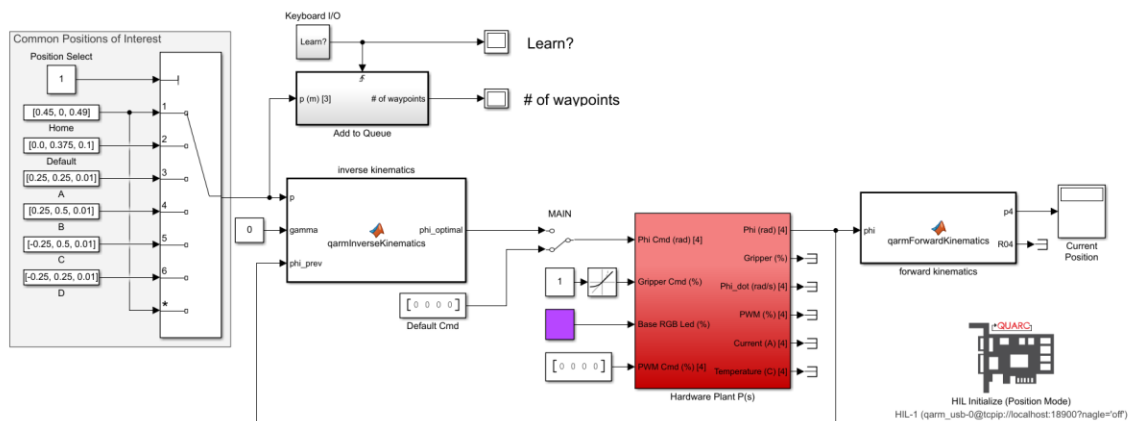

Figure 2.3: Simulink model *TeachPendant_Learn.slx*
1. Open the Simulink model TeachPendant_Learn.slx (Figure 2.3). You will use this model to "teach" the Quanser QArm a series of waypoints that simulate a robotic assembly process. This model emulates the learning mode of a real teach pendant.